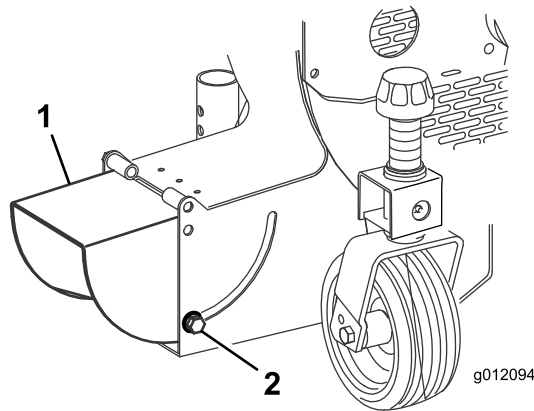

Figure 9
1. Loosen the discharge opening deflector mounting screws (Figure 9).